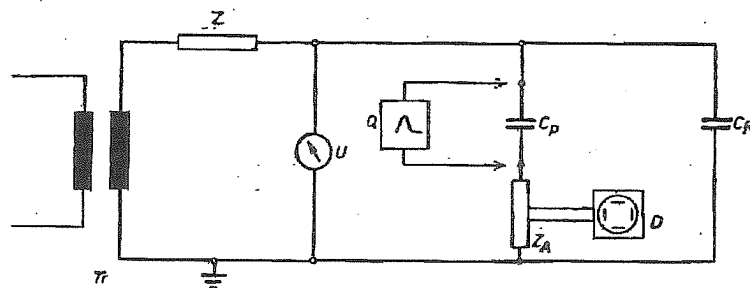

Fig. 6 Test Connection for Partial Discharge Test
b) Test connection coupling quadripole series connected with test loops (see Fig. 6).